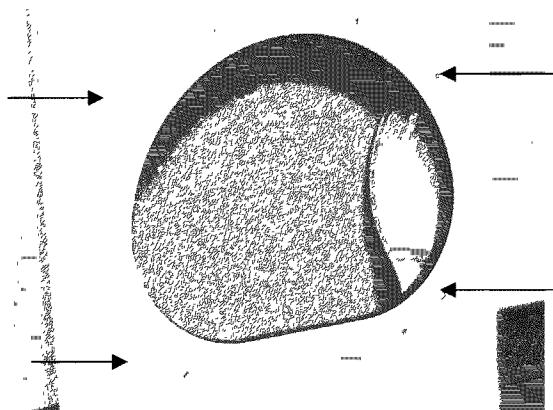

Figure 4
5 Remove two (2) door handle screws and two (2) hole plugs from door Again taking care not to scratch paint on door (Figure 4)